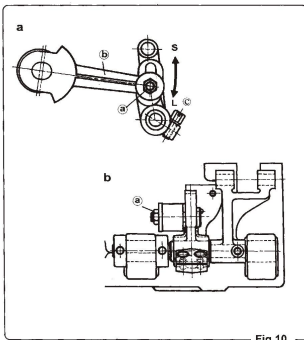

Fig. 10
Loosen the nut ⑪ of the feed regulator and move the feed connecting rod ⑫ in the direction of S, as shown in (Fig. 10), to decrease the stitch width and move the rod in the direction of L to increase the width. When moving the feed connecting rod, do so after confirming that the feed connecting rod can move freely along the slot in the feed rocker. Rotate the pulley in the forward direction until the feed dog is in the forefront position.
(4) 送料機構的調節
b) 送料牙的高度。當送料牙處於最高點時，應高出針板上平面2.5mm。若送料牙高度與送料牙相同，或低於前送料牙高度0.1mm。調整時，鬆開調節螺絲釘⑨，將送料牙調節高出2.5mm的位置。調整結束之後，用盒形扳手將螺絲釘⑩旋緊，將送料牙固定。